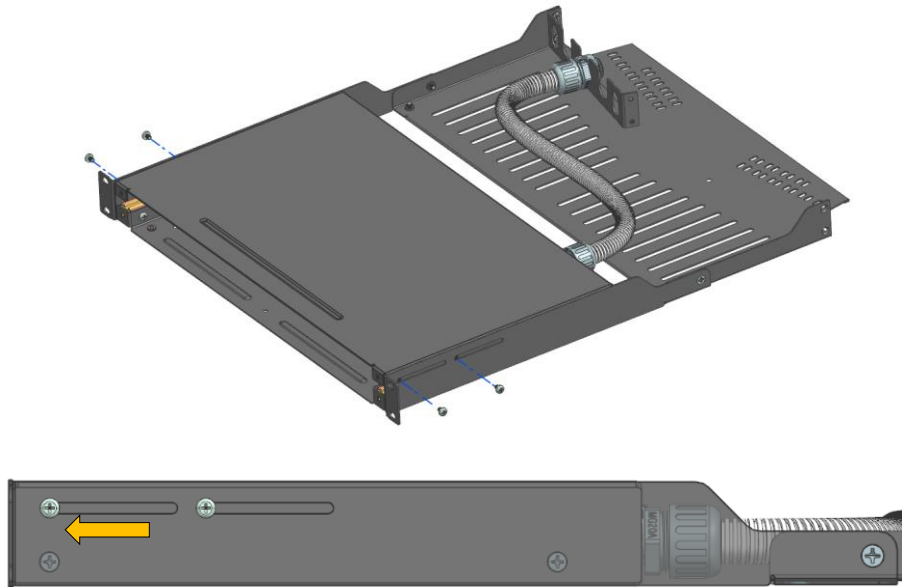

Fig.3F
- Install the assembled “Back tray assembly” to the MFE enclosure using the same screws. (Fig 3F)
- This tray assembly can facilitate to mount the enclosure at different positions horizontally, limited by the obround slot dimension just like the previous mounting brackets, user can install at their desired position based on the requirement as shown above for reference Fig. 3F & 3G (extreme positions).